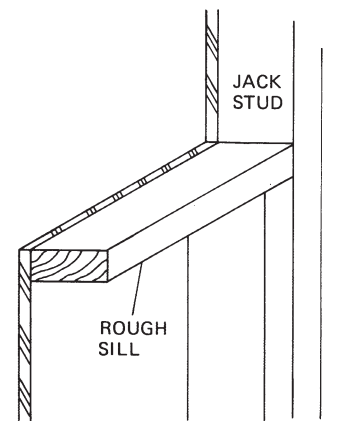

Fig. 9-38 Applying the exterior sheathing. (Andersen.)
7. Apply the exterior sheathing (e.g., fiberboard, plywood, etc.) flush with the rough sill, header, and jack or trimmer stud framing members (Fig. 9-38).